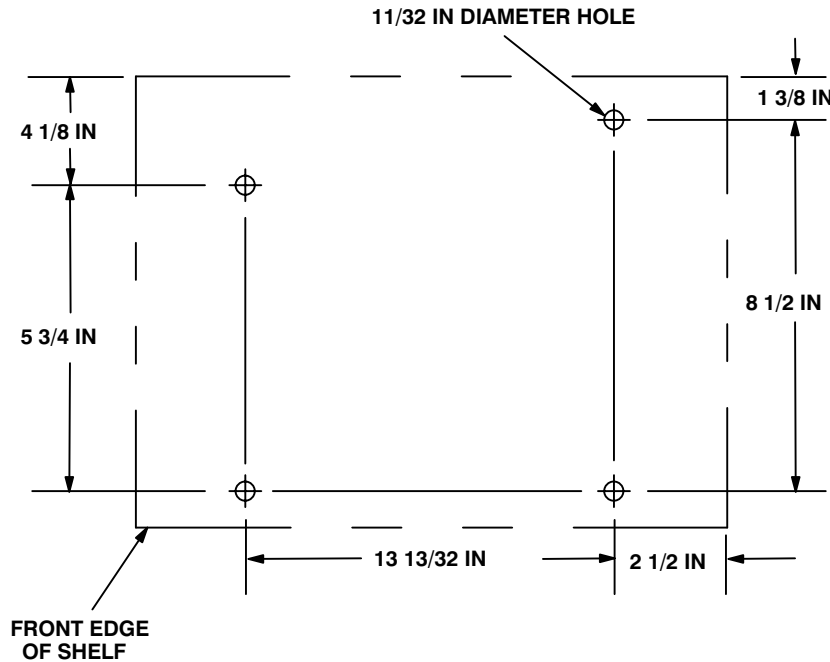

Figure 5-4 (1). Mounting Base Installation: Drilling Dimensions
| a. Existing roadside radio shelf. | Using dimensions shown, drill four 11/32 in diameter holes. See figure 5-4 (1). | Tools: Electric drill and 11/32 in drill bit. |